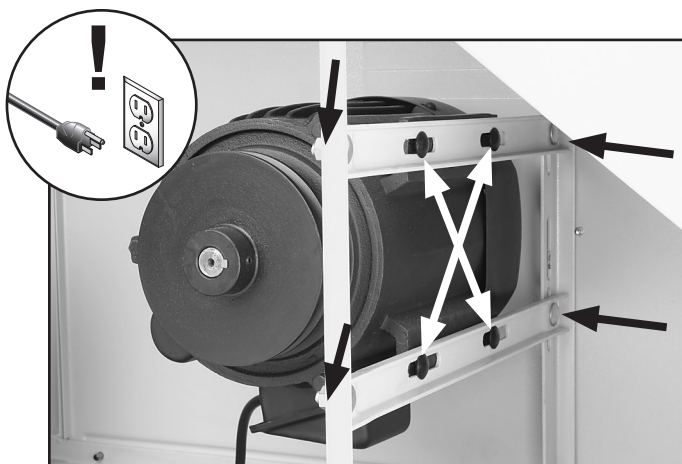

Figure 7. Motor bracket fasteners (black arrows); motor mount fasteners (white arrows).
1. Loosen the motor bracket fasteners shown in **Figure 7**.